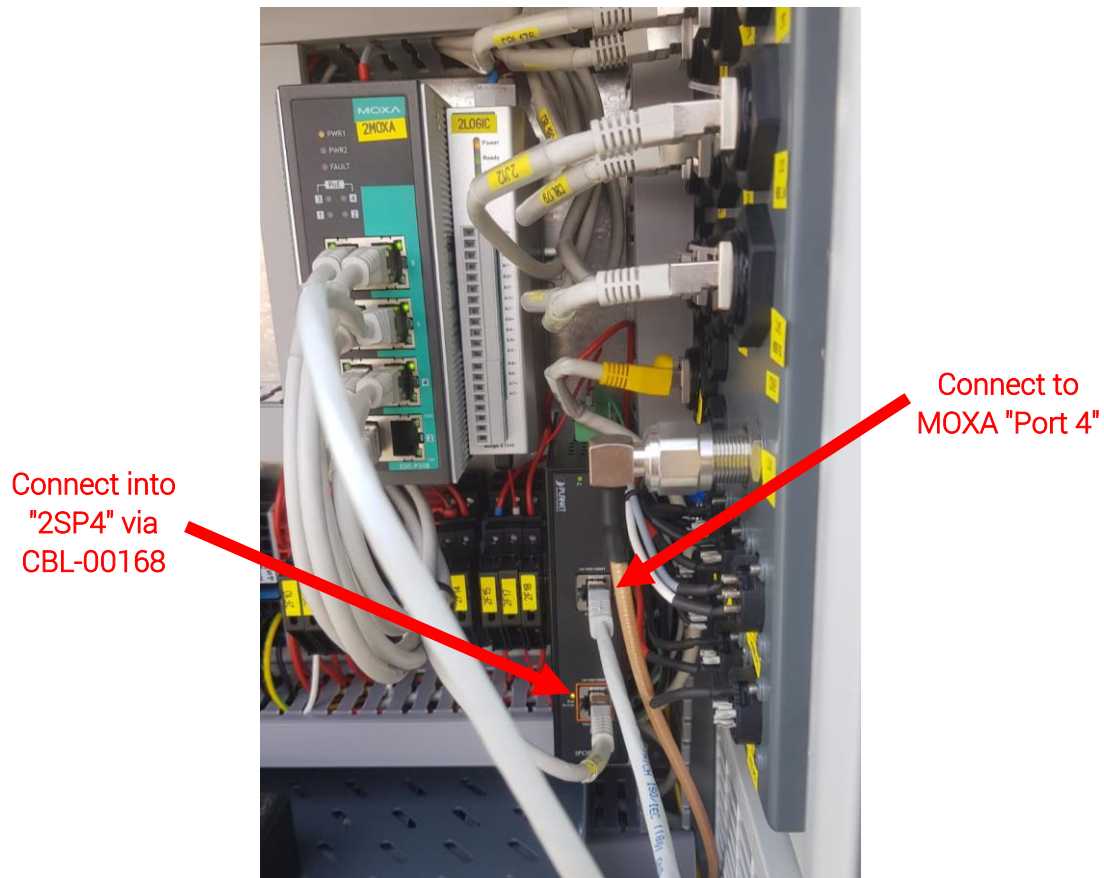

Figure 29 Connect cables into the RJ45 interfaces
5. Connect the POE+ Ethernet + DC port (POE port) into CBL-00168 cable (connected into Surge protector "2SP4") (see Figure 29).
6. Connect the POE+ Ethernet port (10/100 port) into the MOXA at port 4 with short CAT6A cable (0.5m) (see Figure 29).